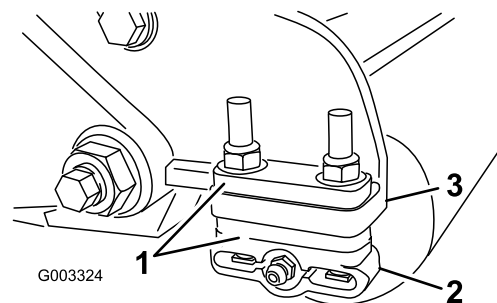

Figure 19
1. Adjust the rear roller brackets (Figure 19) to the desired height-of-cut range by positioning the required amount of spacers below the side-plate mounting flange (Figure 19) per the HOC Chart.